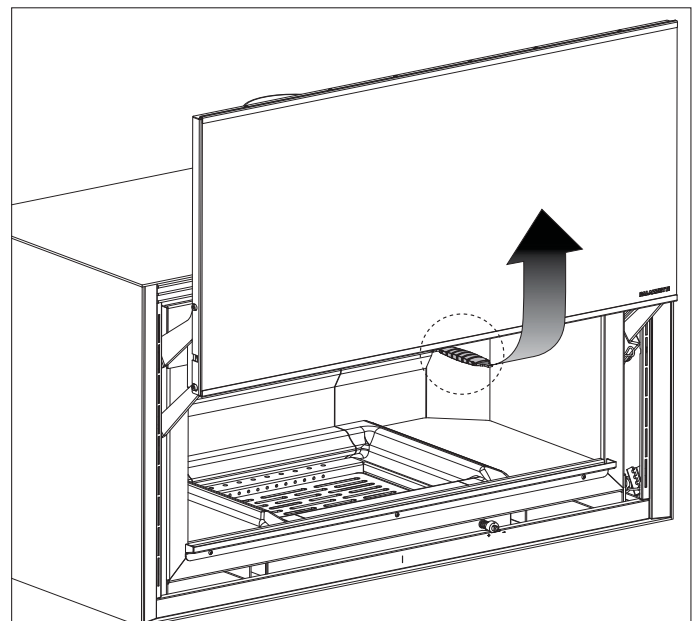

fig. 6.2
- open the fire door inserting the supplied key in the main opening hook (fig. 6.2), and pull towards yourself. Attention! a system provided with springs will tend to automatically lift the shutter.